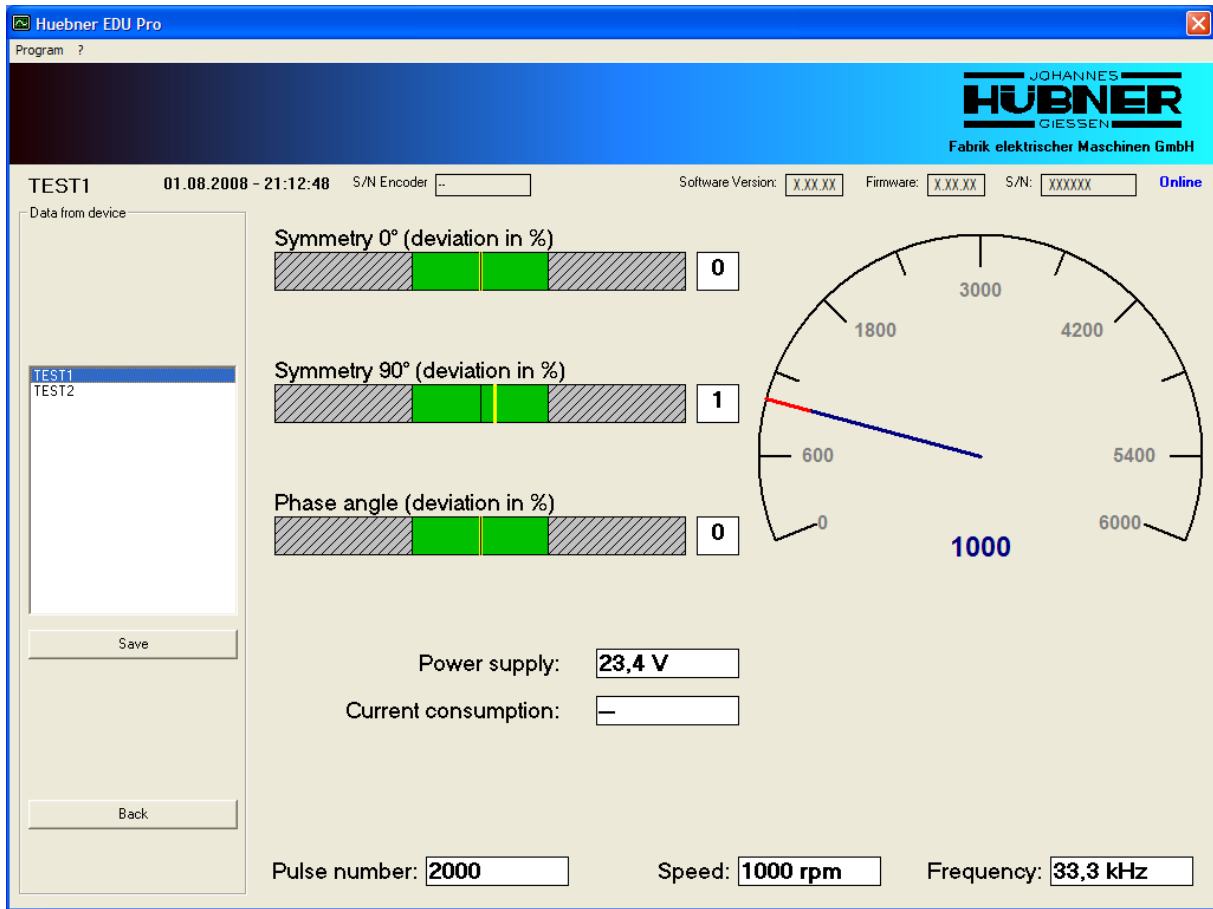

Fig. 16: Data from the EDU100 memory
5. – “Data from device” button. Continue Fig. 16.